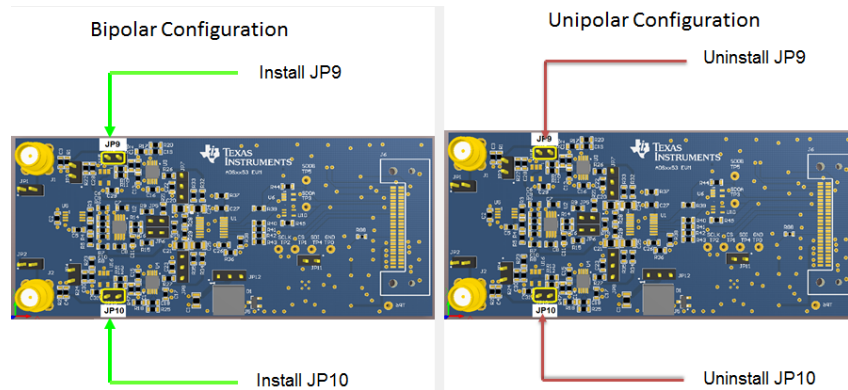

Figure 18. Bipolar or Unipolar Signal Jumper Settings Description on the GUI
3. Scroll down in the *ADS8350EVM Settings* page and find the *ADS8350 Analog Inputs* connections descriptions on the GUI. The ADS8350EVM can be driven with a signal generator producing a bipolar source signal centered on GND or a unipolar signal centered at  $+V_{ref} / 2$ . Jumpers JP9 and JP10 are installed when supporting a bipolar signal centered at GND. Jumpers JP9 and JP10 must be removed when supporting a unipolar signal source signal centered at 2.5-V. Figure 18 shows jumpers JP9 and JP10 on the *ADS8350EVM Settings* page of the GUI.